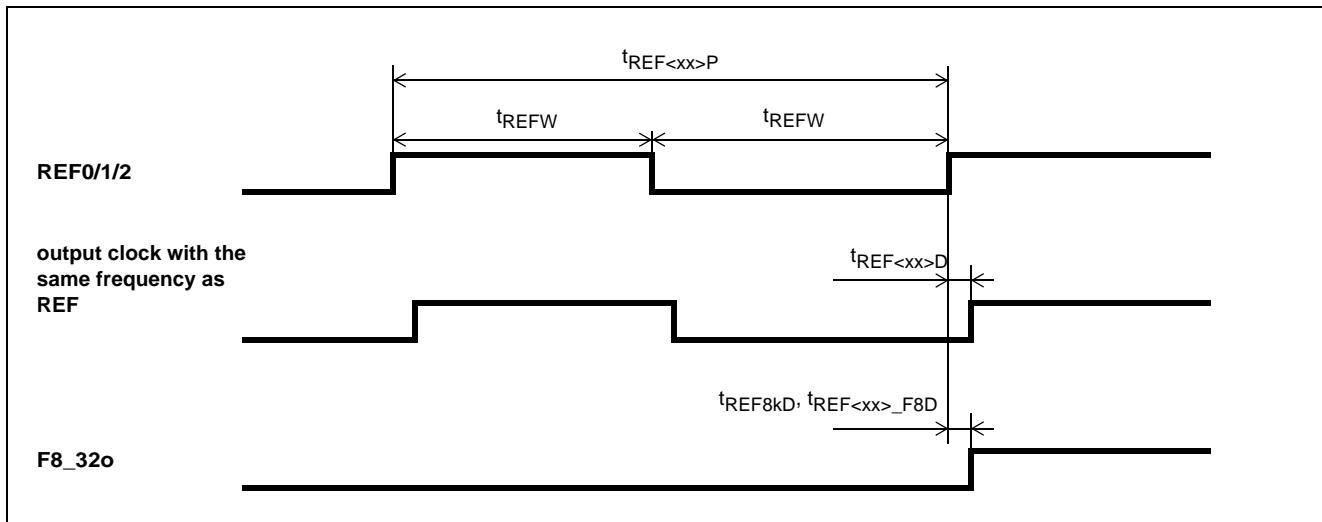

Figure 24 - REF0/1/2 Input Timing and Input to Output Timing
## AC Electrical Characteristics\* - Input timing for REF0, REF1 and REF2 references (see Figure 24).
**AC Electrical Characteristics\* - Input to output timing for REF0, REF1 and REF2 references when TIE\_CLR = 0 (see Figure 24).**